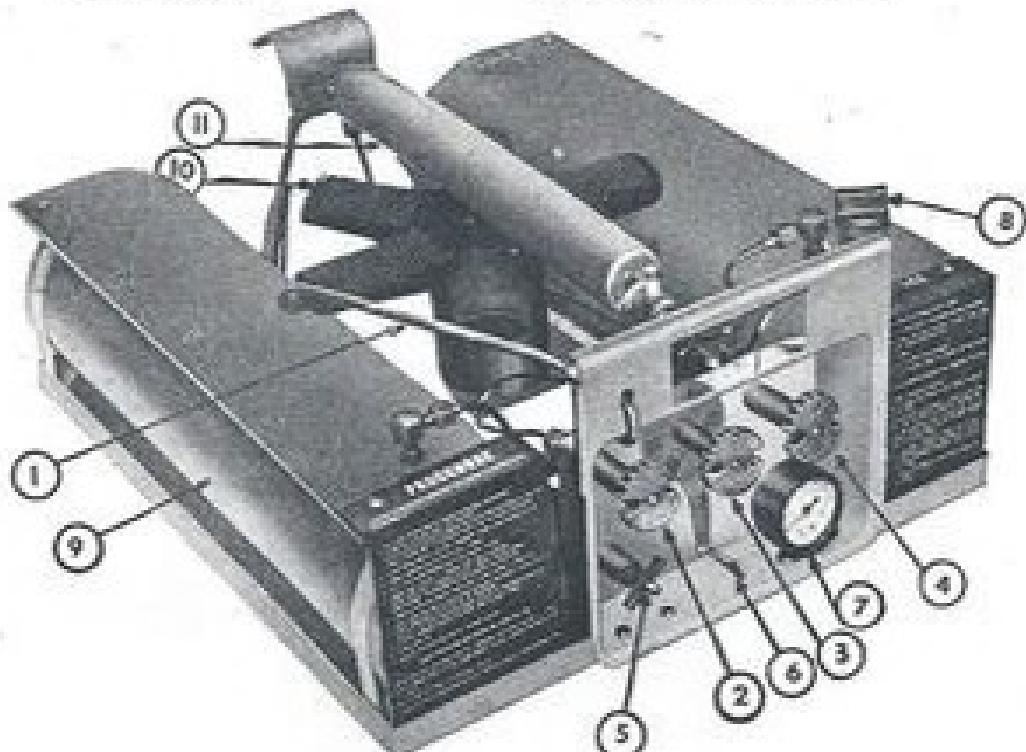

Figure 3. Fire unit.
is furnished in one model only. The range was originally issued with the old type fire unit (Stock No. 65-J-2605) which is identified by the presence of a slender generator tube and an umbrella-like filter case containing an asbestos disk filter. The range is now issued with a simplified converted type fire unit (fig. 3) (Stock No. 65-J-2612), equipped with a tubular generator assembly, containing a steel wool filter, and a redesigned mixture valve. These changes make possible the use of leaded gasoline as a burner fuel. Organizations still using the old type fire units should exchange them as quickly as practicable for converted units.
e. FIRE UNIT. The fire unit (fig. 3) consists of an air tank, a fuel tank, a generator, a burner, and the necessary valves and tubes to connect these units, all mounted in a frame. White or leaded motor fuel gasoline is used as the fuel. The generator contains a steel wool filter which removes the dirt and some of the lead from the gasoline before it is burned. This reduces the lead toxicity of the burner fumes and the clogging of burner valves, tubes, and slots. The unit operates under pressure; the hand pump is used to build up and maintain the pressure by pumping air into the system.